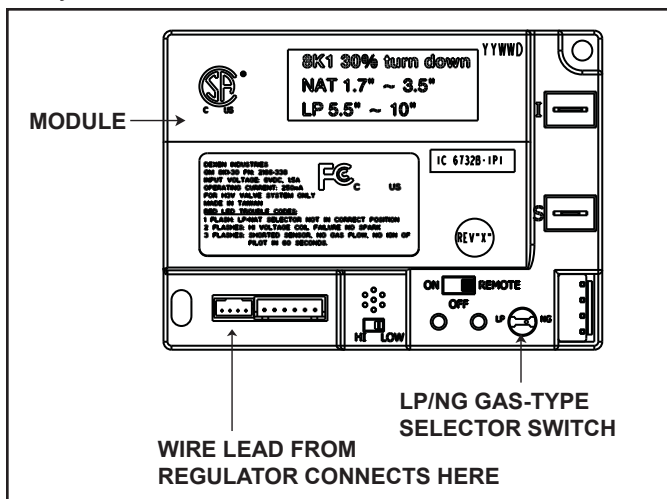

Figure 3.4 Control Module
1. The control module has an ON/OFF/REMOTE selector switch that must be set. See Figure 3.4.
2. If using the wired switch in the control cavity with the module in REMOTE mode, the flame output can be adjusted with the HI/LO selector switch on the module. See Figure 3.4. Note that the flame HI/LO selector switch will become inactive once an optional remote control (RC200/RC300) is programmed to the control module. Note that the control module will always ignite the fireplace on HI and remain so for the initial 10 seconds of operation. If the HI/LO is switched to the LO position, the flame output will automatically drop to the lowest setting after the flame has been established for 10 sec. After this 10 second period, the flame can be adjusted from HI to LO with the switch.
- Locate the module selector switch. (See Figure 3.4).
- Wait five (5) minutes to allow possible accumulated gas to clear.